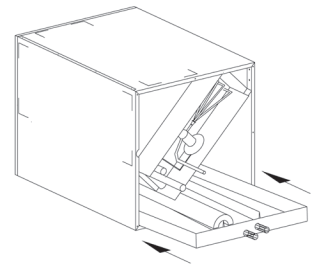

Fig. 08
- 5) Replace the drain pan in (new) bottom location. (Fig. 08)